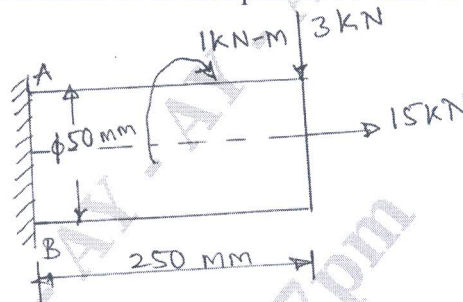

Fig. Q1 (c)
- c. A circular rod of diameter 50 mm is subjected to loads as shown in Fig. Q1 (c). Determine the nature and magnitude of stresses at critical points 'A' and 'B'. (10 Marks)